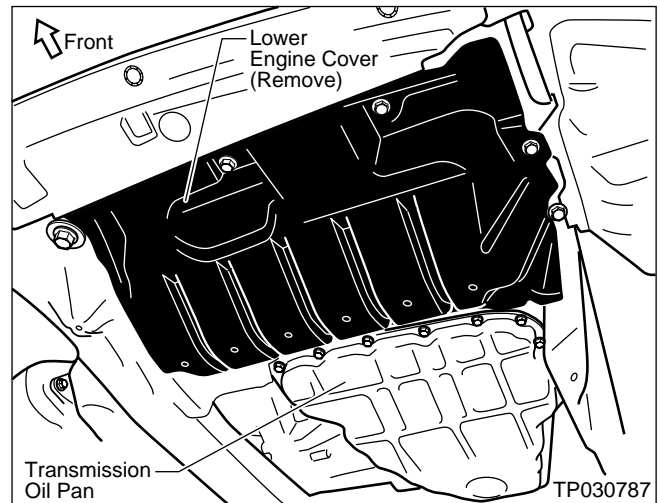

Figure 11
2. Remove the Lower Engine Cover (see Figure 11).